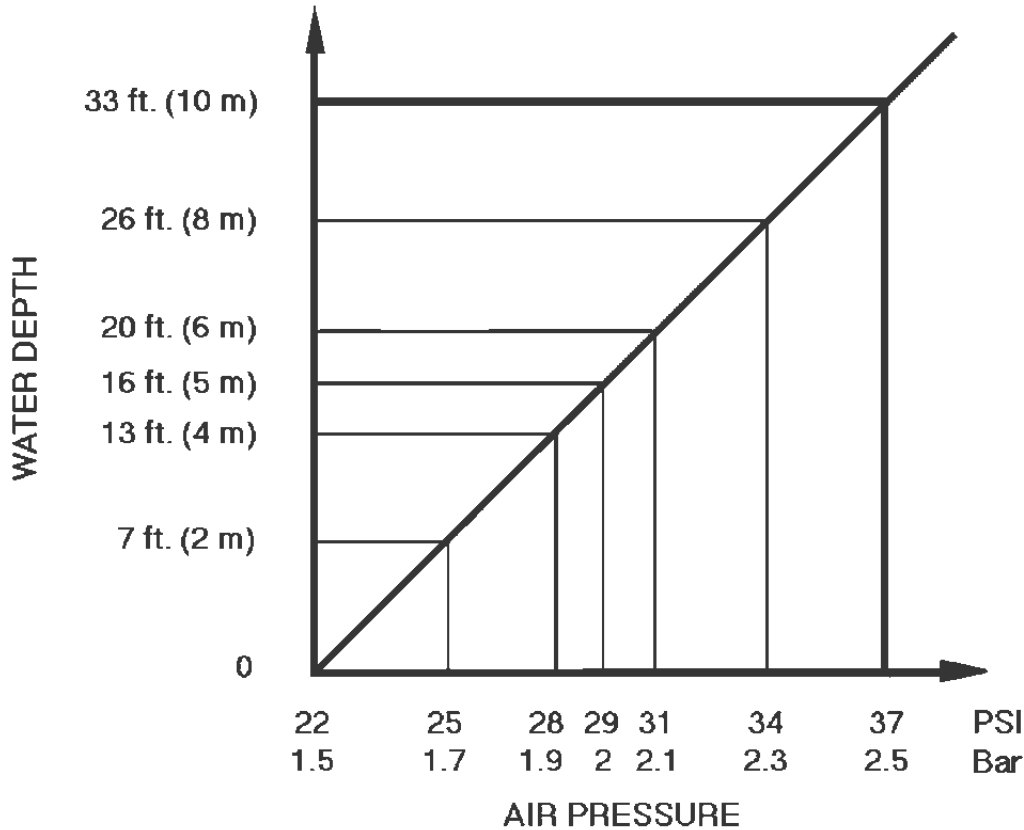

Figure 9-12. Air Pressure Chart For Underwater Operation
5. Refer to the graph shown in Figure 9-12. Find the air pressure required for the maximum water depth in which the Hy-Ram will be immersed.